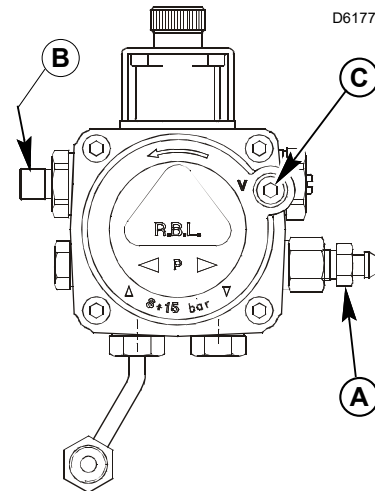

Fig. 16
To protect the pump gears, it is advisable to lubricate the pump prior to purging a lift system. Apply oil through the vacuum port C)(Fig. 16).
- A Loosen the bleeder valve A)(Fig. 16) until oil flows out. Tighten the bleeder valve securely and start burner.
- 1 Loosen the bleeder valve A)(Fig. 16).
- 2 Disconnect nozzle oil supply line at the pump nozzle port B)(Fig. 16).